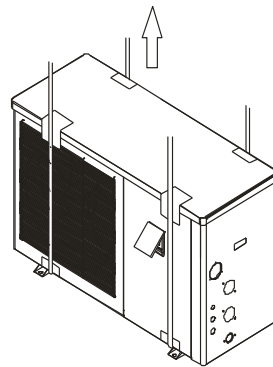

Figure 6 Hoisting diagram
- Please use four or more soft lifting belts to move the sets Figure 6.